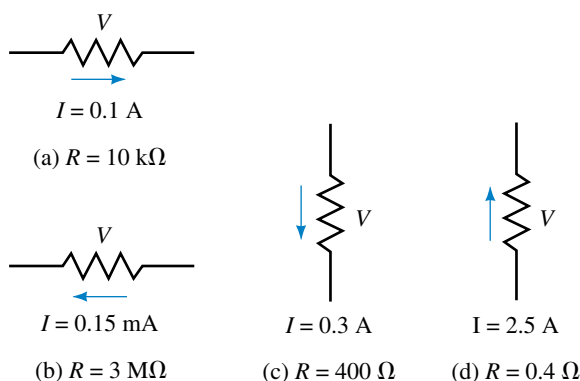

FIGURE 4–12
Now consider current. The direction of I is from top to bottom through the resistor as indicated by the current direction arrow. Examining voltage polarity, we see that the plus sign for V is at the tail of this arrow. This observation turns out to be true in general and gives us a convention for marking voltage polarity on circuit diagrams. *For voltage across a resistor, always place the plus sign at the tail of the current reference arrow.* Two additional examples are shown in Figure 4–11(b).
For each resistor of Figure 4–12, compute V and show its polarity.
- The voltmeters of Figure 4–13 have autopolarity. Determine the reading of each meter, its magnitude and sign.